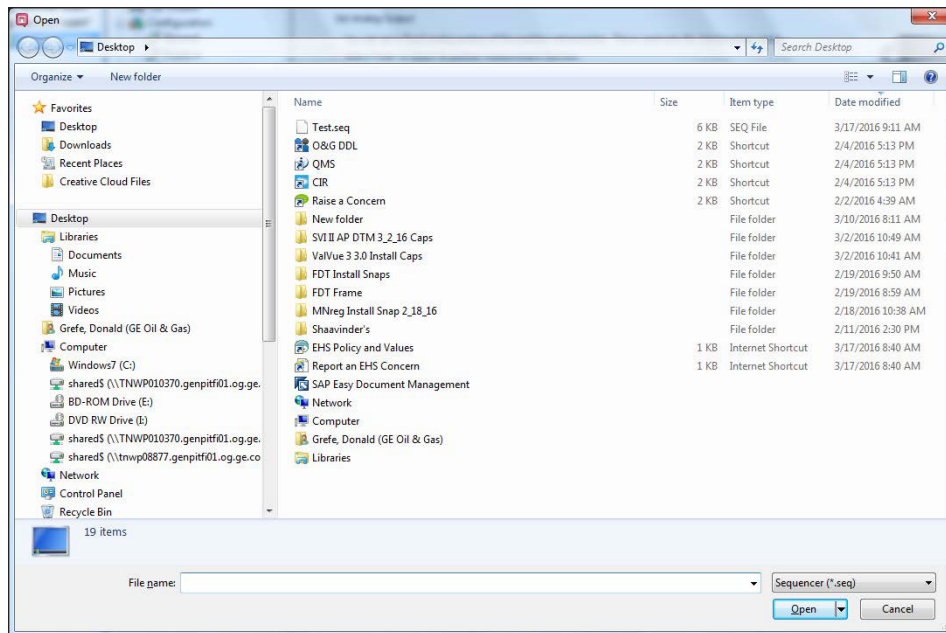

Figure 104 - Open a .seq File
2. Click  and Figure 104 appears.